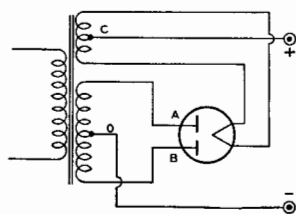

Fig. 3
**Maximum peak inverse voltage** characteristic of a rectifier tube is the highest peak voltage that a rectifier tube can safely stand in the direction opposite to that in which it is designed to pass current. In other words, it is the safe arc-back limit with the tube operating within the specified temperature range. Referring to Fig. 3, when plate A of a full-wave rectifier tube is positive, current flows from A to C, but not from B to C, because B is negative. At the instant plate A is positive, the filament is positive (at high voltage) with respect to plate B. The voltage between the positive filament and the negative plate B is in inverse relation to that causing current flow. The peak value of this voltage is limited by the resistance and nature of the path between plate B and filament. The safe value of this voltage is that at which break-down does not occur and is known as maximum peak inverse voltage. The relations between peak inverse voltage, RMS value of a-c input voltage and d-c output voltage depend largely on the individual characteristics of the rectifier circuit and the power supply. The presence of line surges or any other transient, or wave-form distortion may raise the actual peak voltage to a value higher than that calculated for sine-wave voltages. Therefore, the **actual** inverse voltage, and not the calculated value, should be such as not to exceed the rated maximum peak inverse voltage for the rectifier tube. A cathode-ray oscillograph or a spark gap connected across the tube is useful in determining the actual peak inverse voltage. In single-phase, full-wave circuits with sine-wave input and with no condenser across the output, the peak inverse voltage on a rectifier tube is approximately 1.4 times the RMS value of the plate voltage applied to the tube. In single-phase, half-wave circuits with sine-wave input and with condenser input to the filter, the peak inverse voltage may be as high as 2.8 times the RMS value of the applied plate voltage. In polyphase circuits, mathematical determination of peak inverse voltage requires the use of vectors.